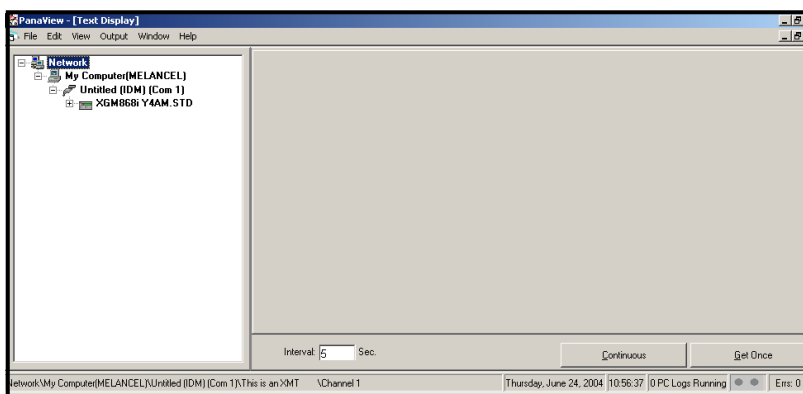

Figure 19: The Text Display Window
2. Using the *Window* menu, as described in the *PanaView User's Manual*, arrange the open windows in the desired format. For this discussion, Figure 19 shows the *Text Display* window in its maximized (full-screen) size.
5. Before actual data values can be displayed in the text pane, activate one of the following data collection modes (see Figure 19 on page 49):